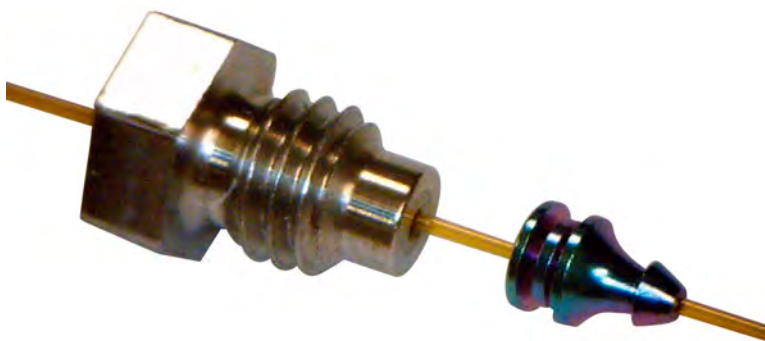

Figure 17. Ferrule swaged to column and column nut
- 7 Using the 1/4-inch open-ended wrench, turn the column nut an additional 15 to 20 degrees clockwise to assure the ferrule is properly swaged onto the column. See Figure 17.